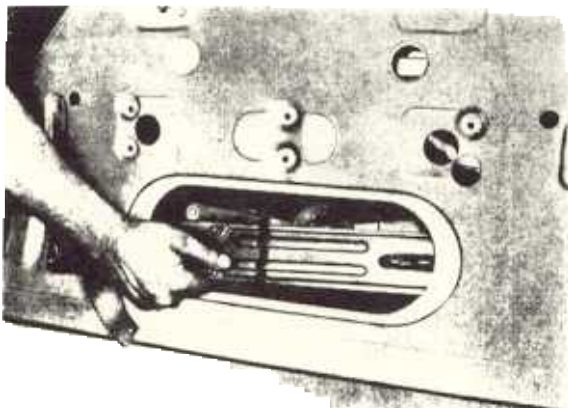

Fig. 28
1. Install crank mechanism. Crank down mechanism as far as possible, in order to facilitate inserting through opening of door (see fig. 28).